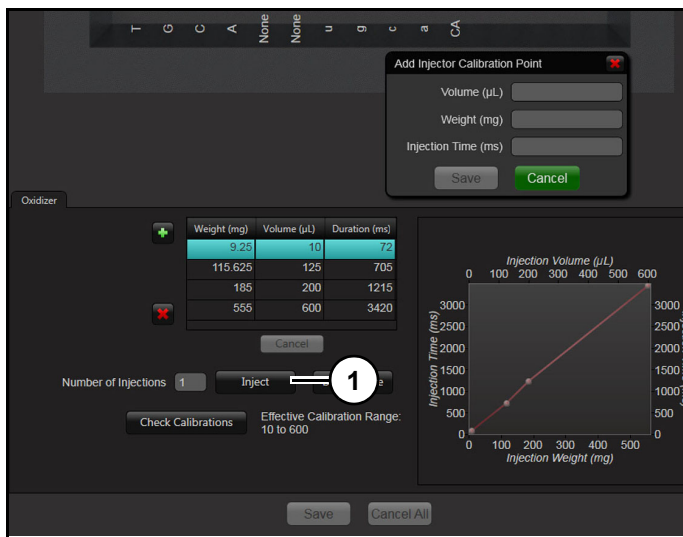

Figure 13
- Click "Inject" (1) (Figure 13). Instrument will open valve for 72ms, injecting liquid into collection vile.
- Enter measured volume into "Injection Volume (µL)" (1) (Figure 13).
- Click "Save" (3) (Figure 13). To calibrate another point, highlight appropriate line with a mouse click.